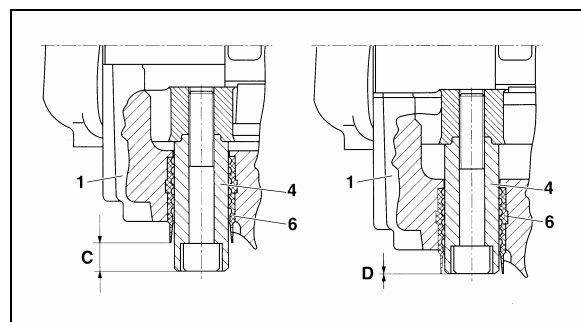

FIGURE 24: BRAKE PAD CHECK
Brake pads have to be checked on a regular basis depending on the vehicle operation. The remaining thickness of the pads should never be less than 3/32 in (2 mm). To check pad condition without removing the wheel, verify the position of guide bushing (6) relatively to guide sleeve (4) (see Fig. 24). When guide sleeve is in alignment with guide bushing, brake pad thickness has to be checked more precisely with